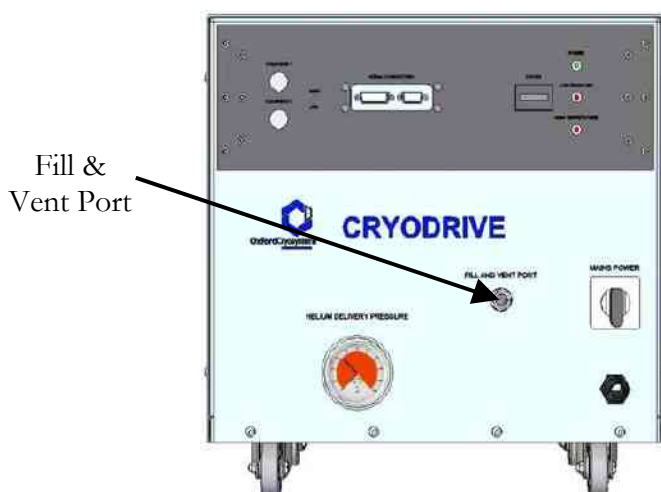

Figure 17 – Cryodrive fill and vent port
3. Locate the 'Fill and Vent Port' on the front of the Cryodrive (Figure 17).